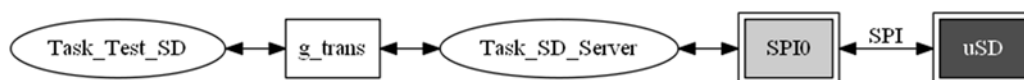

Figure 1. Communication between SD tasks and μ SD card
- Task_Test_SD initializes the SD card and then repeatedly scans through the card with this sequence: reading 100 sectors and then writing one sector (verifying the data was written correctly). This task does not access the SD card directly, but instead sends commands to Task_SD_Server which processes them. See Figure 1. This is a common design architecture for non-preemptively-scheduled systems which must be responsive despite slow or potentially blocking operations.